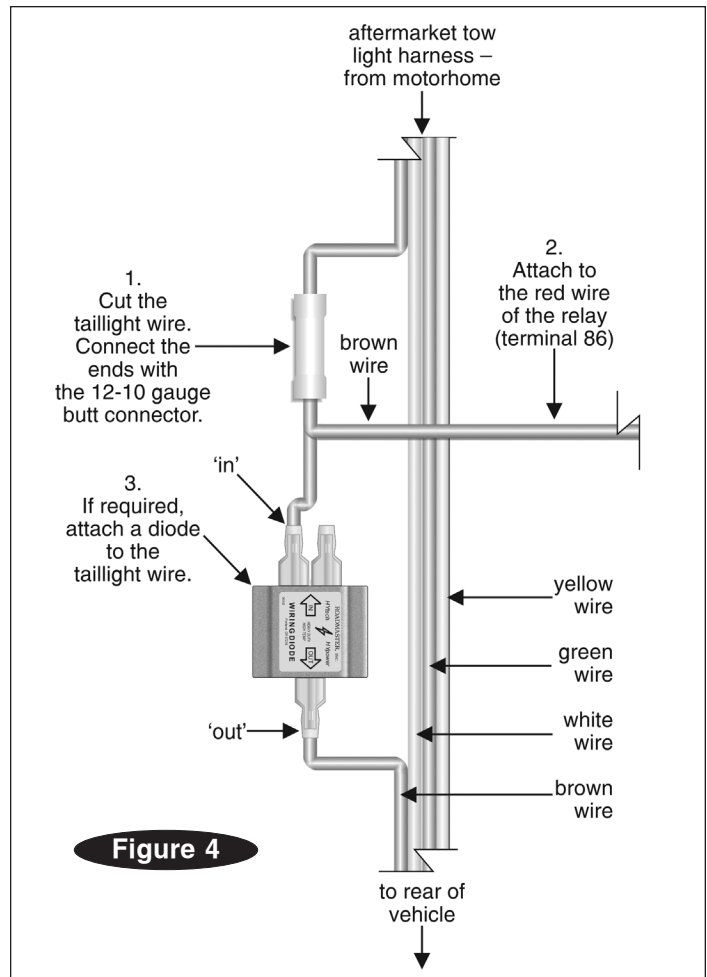

Figure 4
8. Extend and connect the red wire to the aftermarket tow light harness, as shown in Figure 4.
11. Turn on the headlights. Test for voltage at the red wire of the relay (terminal 86). If voltage is present, install a diode, as shown in Figure 4.